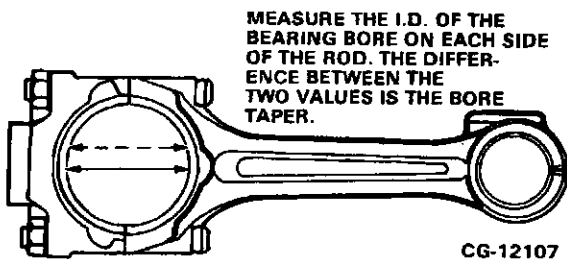

Figure 6.25. Measure Bearing Bore Taper
7. Measure the connecting rod bearing bore taper (Figure 6.25), by measuring the bore I.D. on each side of the bearing bore. Record the readings. The difference between the two readings is the bore taper. (See "SPECIFICATIONS".) Replace rod as required.